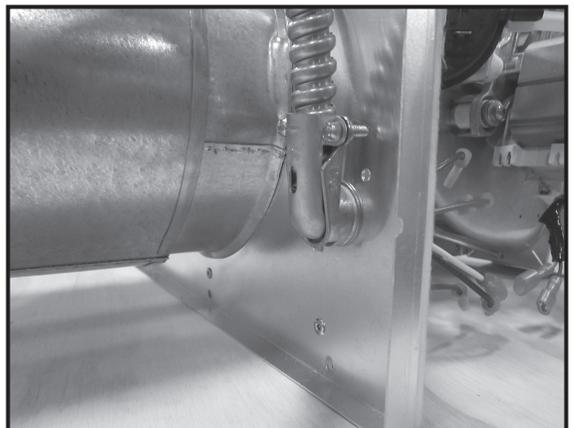

Figure 3.10
4. Install PVI wiring harness through the electrical access hole in back cover cap. See Figure 3.10.